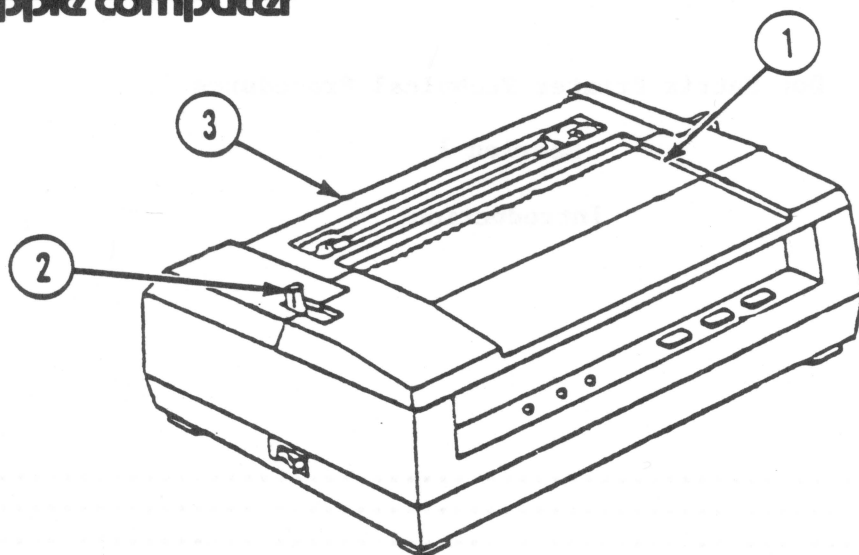

FIGURE 1
2. Raise the paper cutter toward you. (See Figure 1, #1.)
3. Pull the paper release level forward. (See Figure 1, #2.)
4. Remove the paper cover. (See Figure 1, #3.)